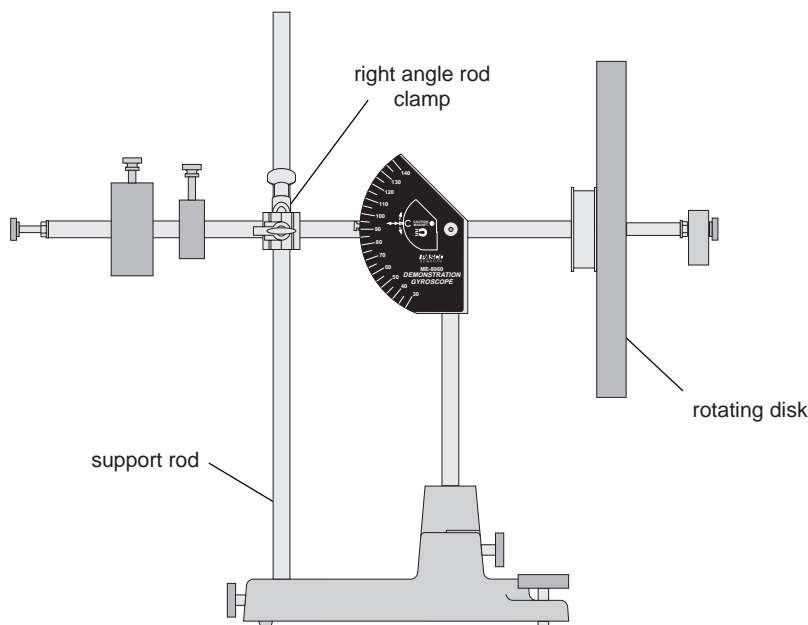

Figure 1.3: Experiment Setup
- ① Clamp the gyroscope shaft in the horizontal position. See Figure 1.3.
- ② Attach a Super Pulley with rod to the table using a table clamp.
- ③ Wind a thread around the pulley on the center shaft and pass the thread over the Super Pulley.